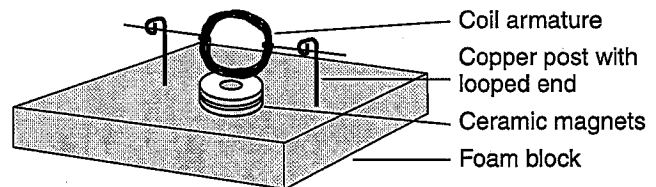

Figure 2.
8. Use needle-nose pliers to make a small, complete loop at one end of each piece of copper wire. If necessary, use the needle-nose pliers to straighten the copper wires as well (see Figure 2).
11. Place the coil armature axles into the loops in the copper wire posts. The axle of the coil armature should be parallel to the foam surface and the armature should be balanced and able to spin freely (see Figure 2).